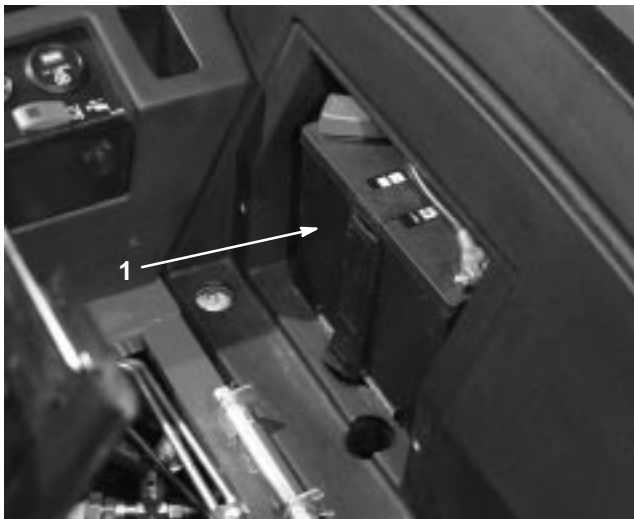

Figure 75
3. Remove the filler caps from the battery (Fig. 75) and slowly fill each cell until electrolyte is just above the plates.